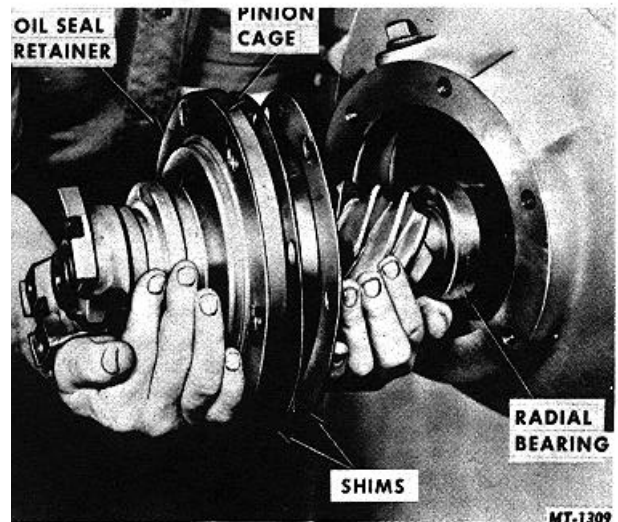

Fig. 16 Removing Pinion and Cage Assembly
- Remove pinion and cage assembly from the differential carrier, Fig. 16.